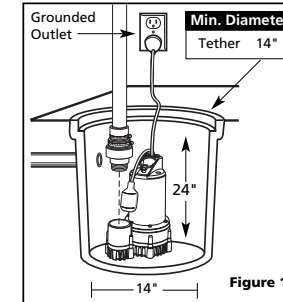

Figure 1
1. Install pump in a sump pit with minimum size as shown in Figure 1. Construct sump pit of tile, concrete, steel or plastic.